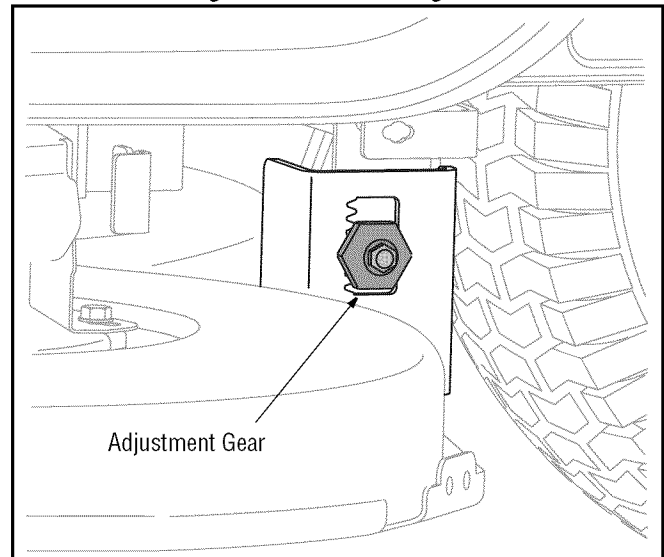

Figure 14
- Locate the jam nut and lock nut found on the front side of the stabilizer bracket. See Figure 14. After loosening the jam nut:
- Loosen, but do NOT remove, the hex screw on the left deck hanger bracket. See Figure 14.